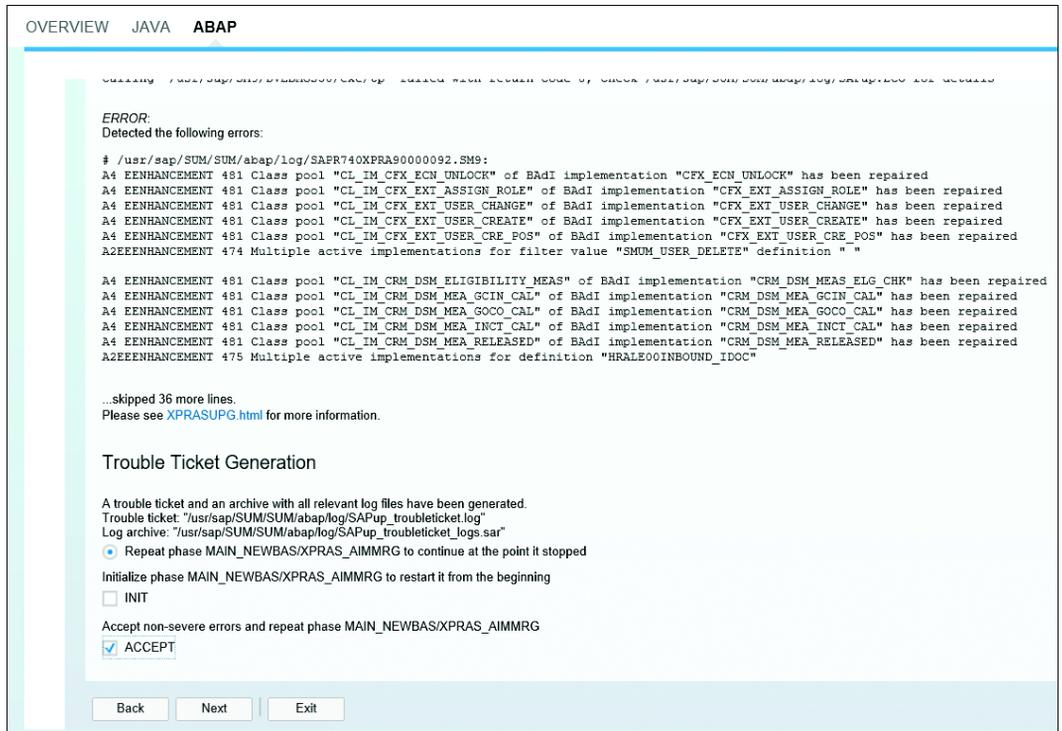

Figure 79 Accept Non-Server Errors and Repeat
18. A prompt may appear (see Figure 79) letting you know errors were detected and repaired in the XPRAS task. Read the logs and decide how to proceed. We chose to accept the non-sever errors and continue.